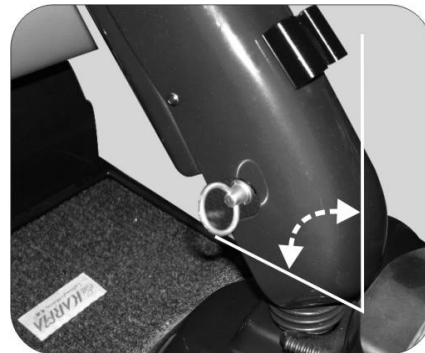

FIGURE 5.14
5.13.1.4 Gently push/pull against the steering column to ensure that the steering column is securely engaged into the locking mechanism. The adjustment pin will automatically slide into the hole and make a "click" sound. (See **Figure 5.14**)